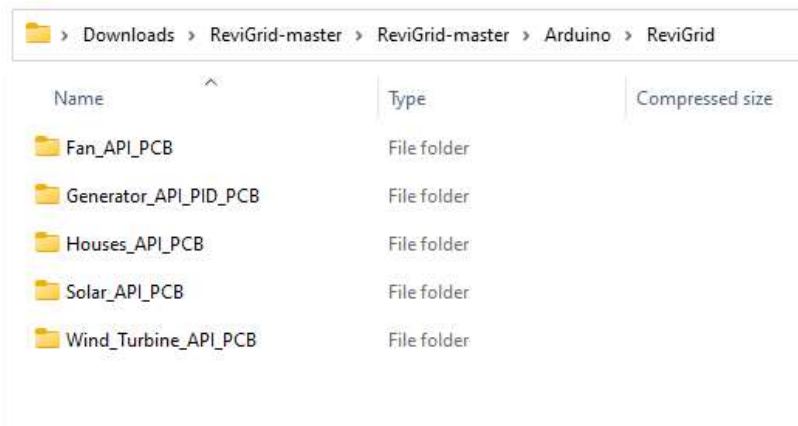

Figure 1.3 ReviGrid folder content
- Open the zip folder and navigate to the folder in ... \Arduino\ReviGrid as shown in *Figure 1.3*.